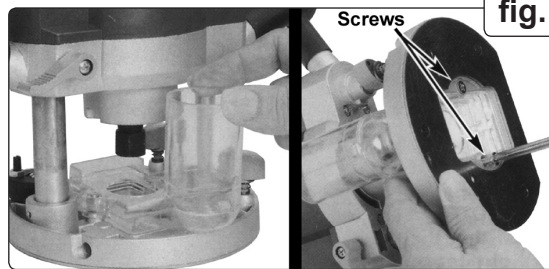

fig. 3
- Fit the duct to the upper side of the router base plate and retain with the two screws and nuts supplied. See fig. 3.